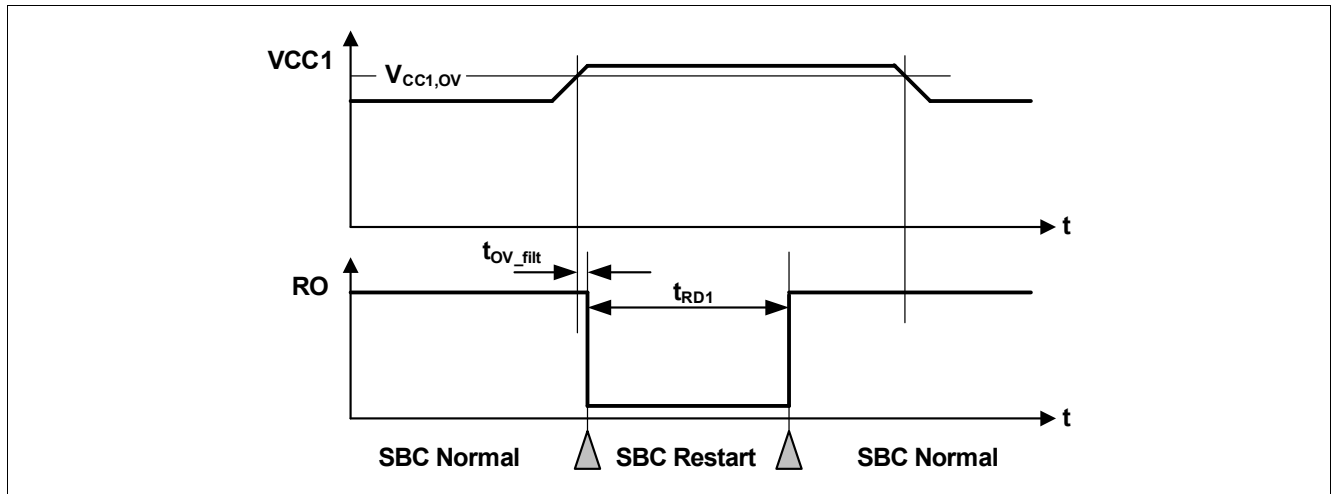

Figure 59 VCC1 Over Voltage Timing Diagram
- If the bit **VCC1_OV_RST** is set and **CFGP** = '1', then SBC Restart Mode is entered. The FOx outputs are activated. After the reset delay time (t_{RD1}), the SBC Restart Mode is left and SBC Normal Mode is resumed even if the VCC1 over voltage event is still present (see also Figure 59). The **VCC1_OV_RST** bit is cleared automatically;